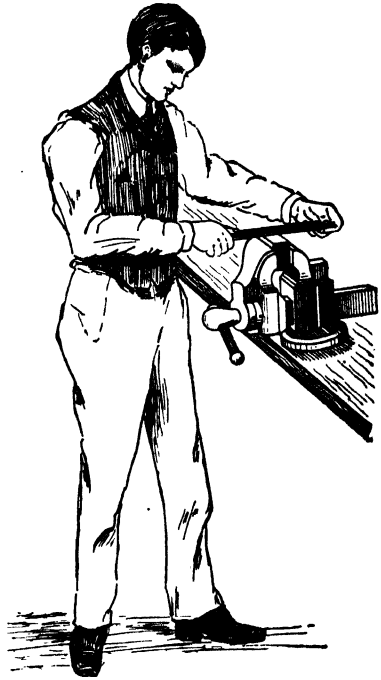

Fig. 6. Correct Bench Filing Position
*Position for Filing.* If one is to undertake a filing job which will require several hours of concentrated labor, it is well for him to learn that position which will give greatest accuracy and which, at the same time, will be the least tiring. The feet should be placed a foot apart and at right angles to the work bench, or nearly so, Fig. 6, the left foot being in line with the top of the vise and the right slightly ahead of the left. This position allows the body to follow the file accurately and eliminates that swinging sideways movement which is disastrous to accurate work.